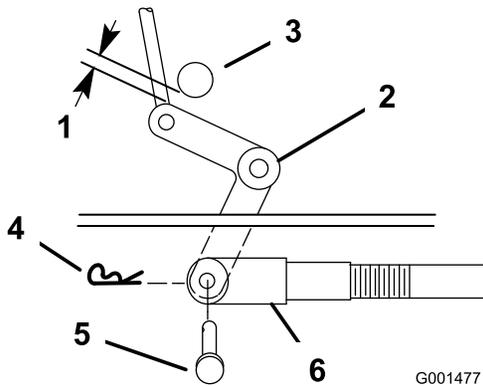
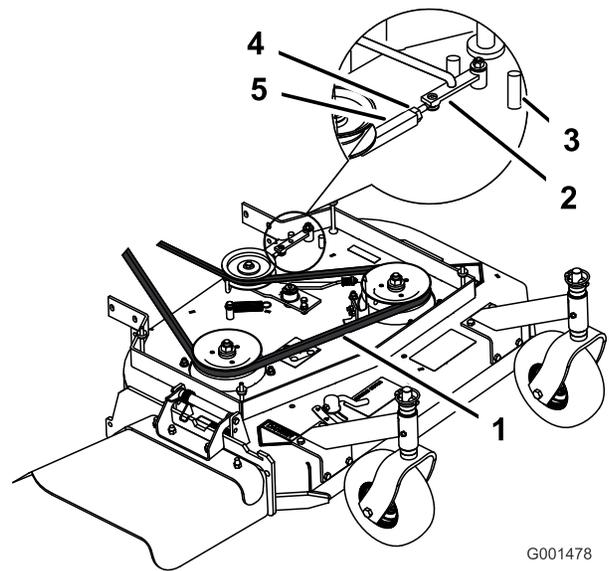
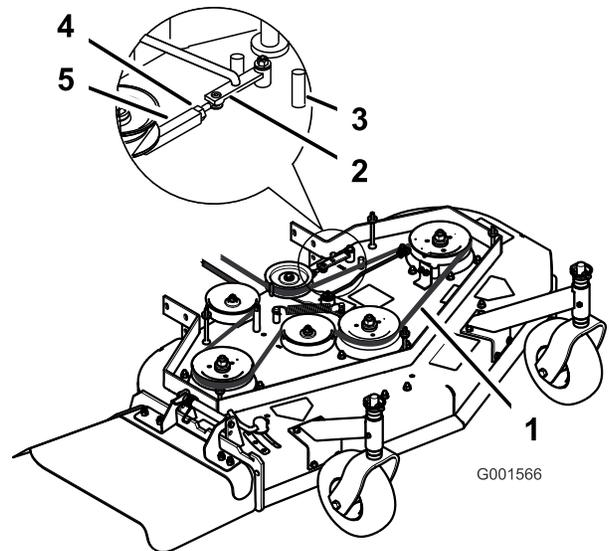

Figure 42
Figure 43
Figure 44
9. Check the clearance between the bell crank and the transmission output shaft (Figure 42).
11. Rotate the clevis clockwise on the rod to increase the clearance; rotate it counterclockwise to decrease it (Figure 42).
Note: If the assist arm does not contact the front stop on the mower deck (Figure 43 or Figure 44), adjust the clevis to bring the bell crank closer to the transmission output shaft (Figure 42).